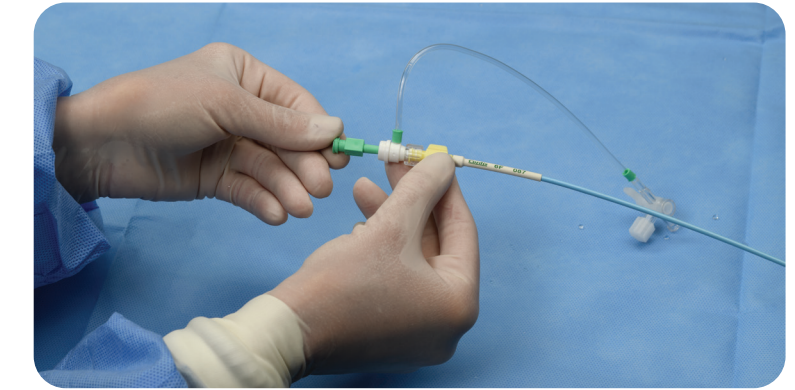

Figure 3
- E. Carefully insert the dilator through the guide sheath and snap it into place. (Figure 3)